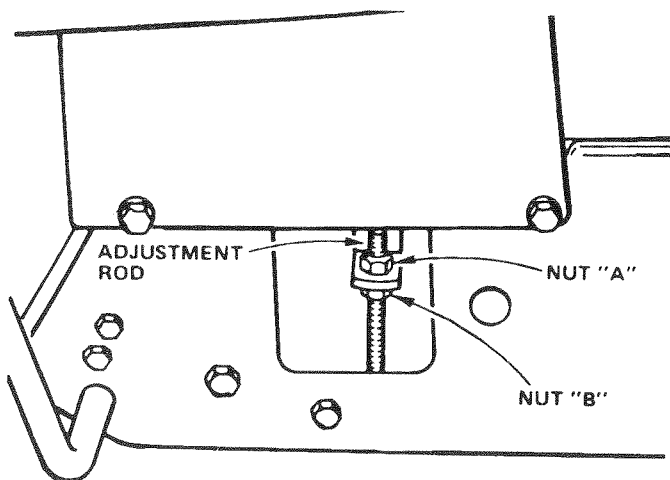

FIGURE 38
2. If adjustment is required, snap out Access Cover on L.H. side of tractor above Foot Rest (Fig. 38).
4. To lower right side of mower, loosen Nut "B" and screw Nut "A" down on Adjustment Rod (Fig. 38).